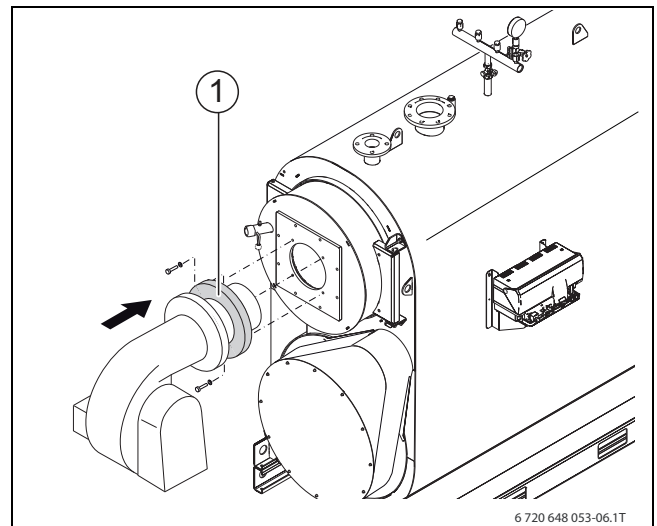

Fig. 20 Fitting the gasket
- Push a gasket (→ fig. 20, [1], page 23) onto the burner connector.